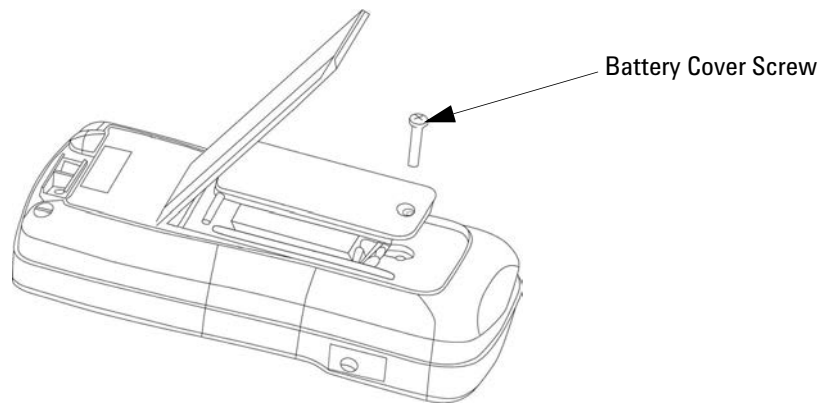

Figure 4-1 Battery replacement
- 2 Unscrew the screw on the battery cover (see Figure 4-1).